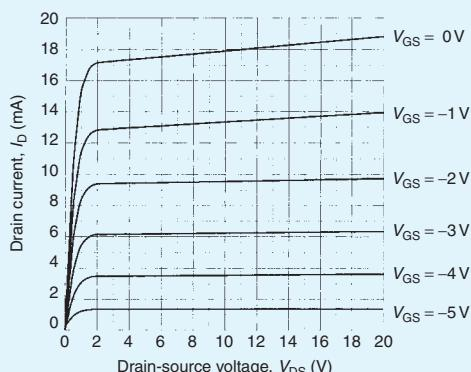

Figure 12.28
7. The output characteristics of a JFET are shown in Fig. 12.28. If this device is used in an amplifier circuit operating from an 18 V supply with a gate-source bias voltage of  $-3 \text{ V}$  and a load resistance of  $900 \Omega$ , determine (a) the quiescent values of drain-source voltage and drain current, (b) the peak-peak output voltage when an input voltage of  $2 \text{ V}$  peak-peak is applied, and (c) the voltage gain of the stage.